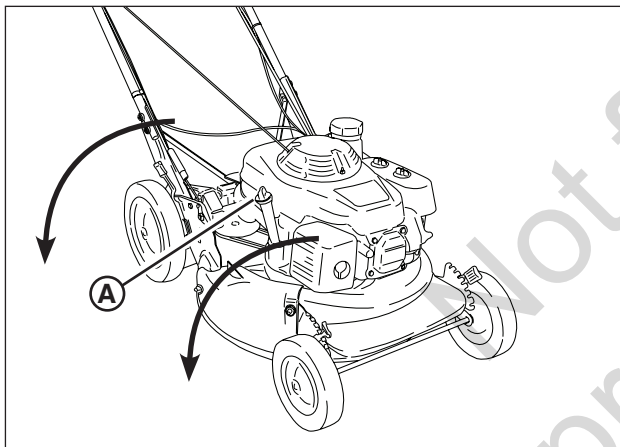

Figure 14: Draining the engine oil
2. Remove the dipstick (**A**, **Figure 14**), then turn the mower on its side. Allow the oil to drain from the oil fill tube into an appropriate container. Dispose of used oil properly.